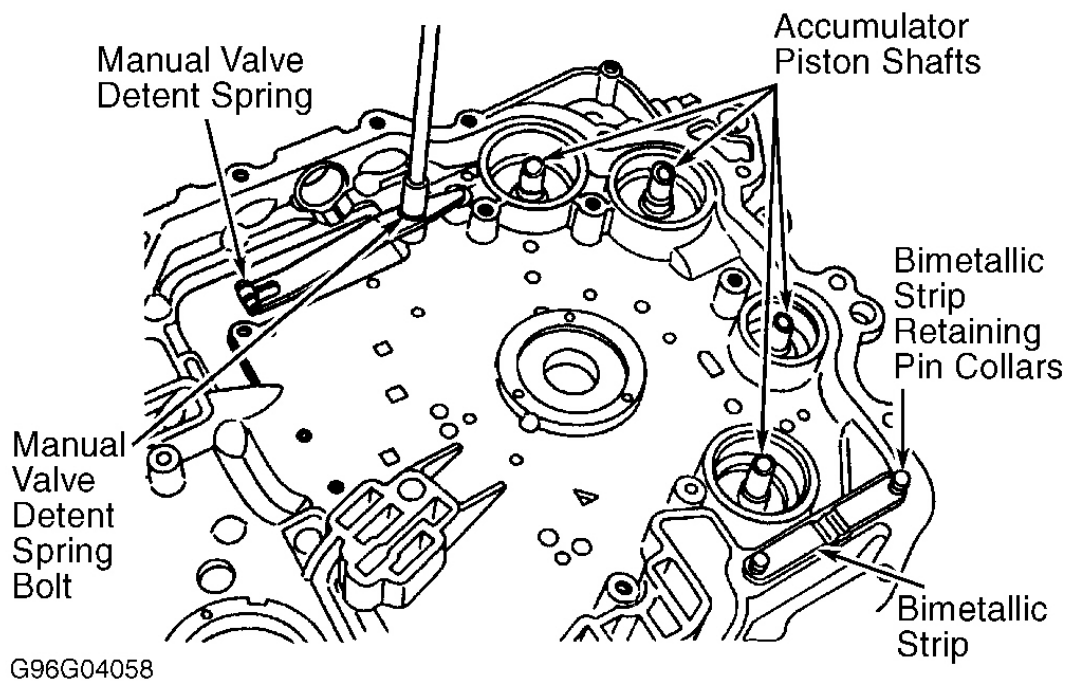

Fig. 24: Identifying Chain Cover Components
2. Remove manual valve detent spring. See **Fig. 24** . Mark and remove 4 accumulator piston shafts. Remove 4 accumulator pistons. Use care to avoid damaging piston bores.
3. Using side cutters, carefully remove bimetallic strip retaining pin collars. See **Fig. 24** . Remove bimetallic strip and plate. Use care not to damage bimetallic strip or machined case surface.
5. Install manual valve detent spring. See **Fig. 24** . Tighten manual valve retaining bolt to 80-106 INCH lbs. (9-12 N.m). Using petroleum jelly to hold in place, install No. 1 drive sprocket thrust washer and No. 3 chain cover thrust washer. See **Fig. 10** . If removed, install electrical connector. Connector should "click" when it is installed.